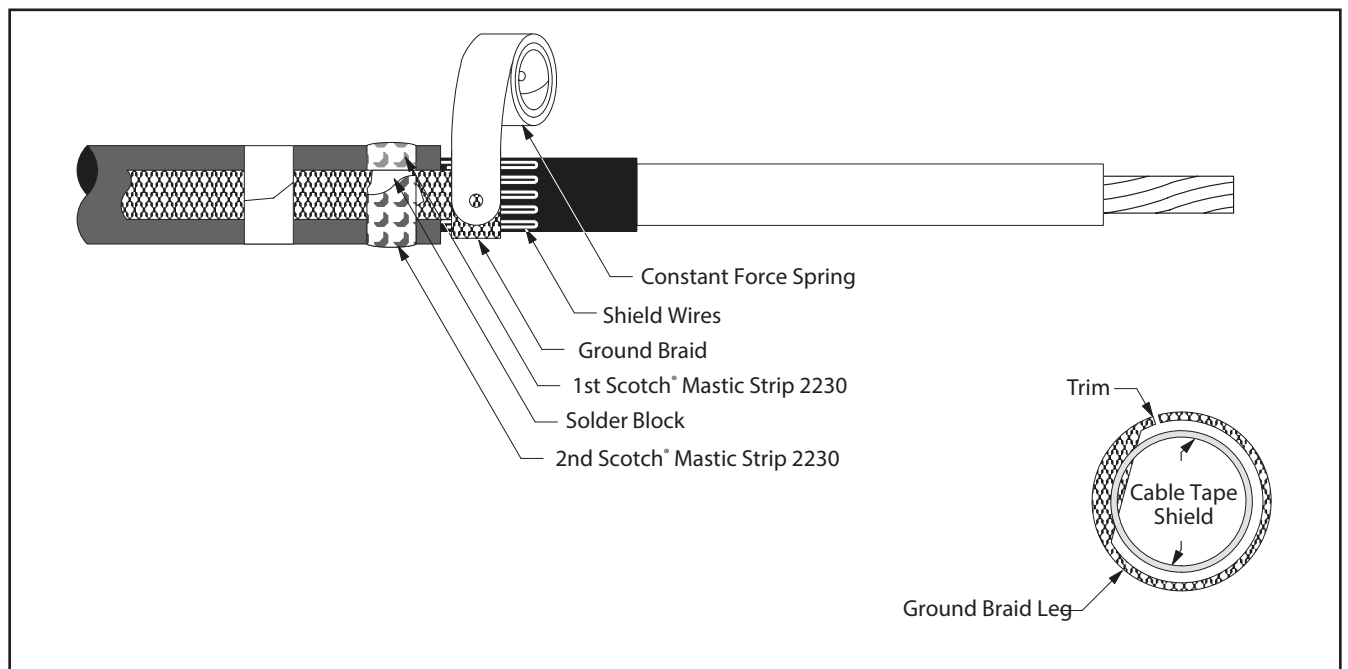

Figure 11
- 8.3 Wrap ground braid around cable shield wires one complete wrap, trim excess to prevent overlap and secure in place with constant force spring. Wrap spring in same direction as ground braid (*Figure 11*). Cinch (tighten) the spring after wrapping the final winding.
- 8.4 Select second Scotch® Mastic Strip 2230 from kit and remove white release liners. Apply a second **SINGLE WRAP** of mastic over solder block on ground braid and previously applied mastic (*Figure 11*). Cut off excess.